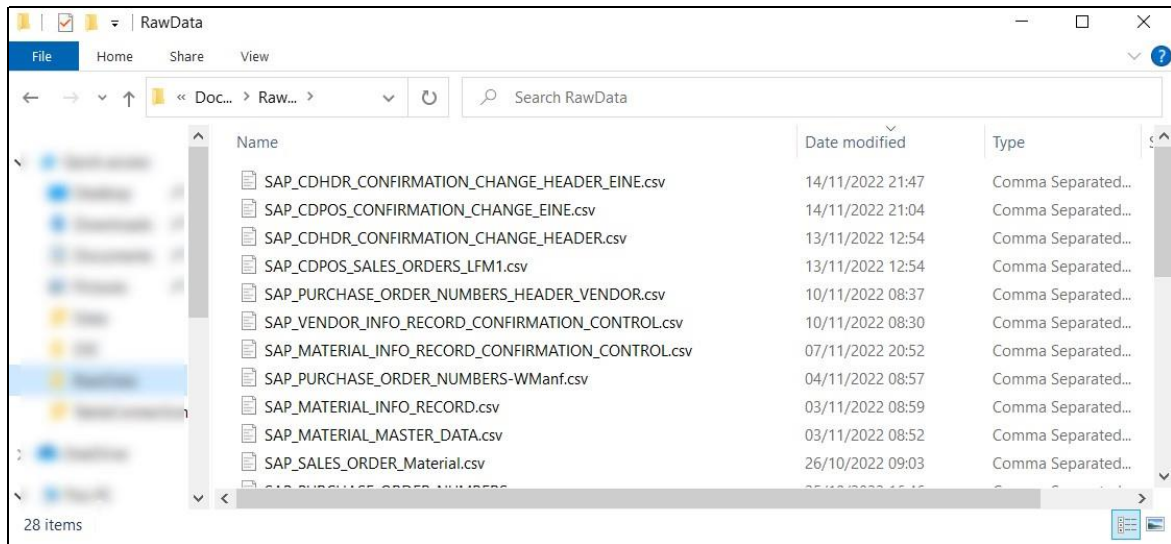

Figure 3 - Image showing the location of all tables extracted from SAP in CSV format.
2. Once Qlikview scripts are ran they will save each of the extracted tables to the folder “C:\Qlik Data\DJC” in the local machine. Once extracted these files are then moved to the “C:\Users\{{username}}\Documents\RawData” folder which can then be encrypted while the research machine is not in use to protect the sensitive data contained in the tables as seen in Figure 3.